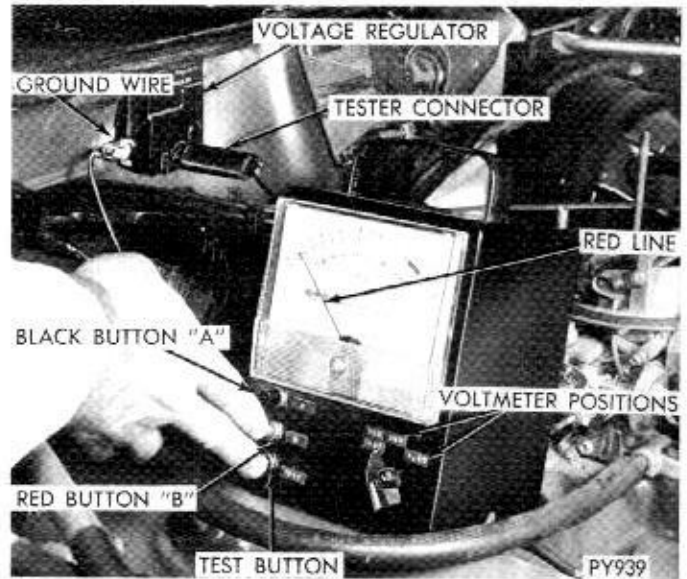

Fig. 7—Voltage Regulator Test (Depressing Test Button "B")
(8) While holding the test button in, depress **Red Button (B)** (Fig. 7), the meter should read above the red line.
(9) If all tests remain within limits the voltage regulator is good.